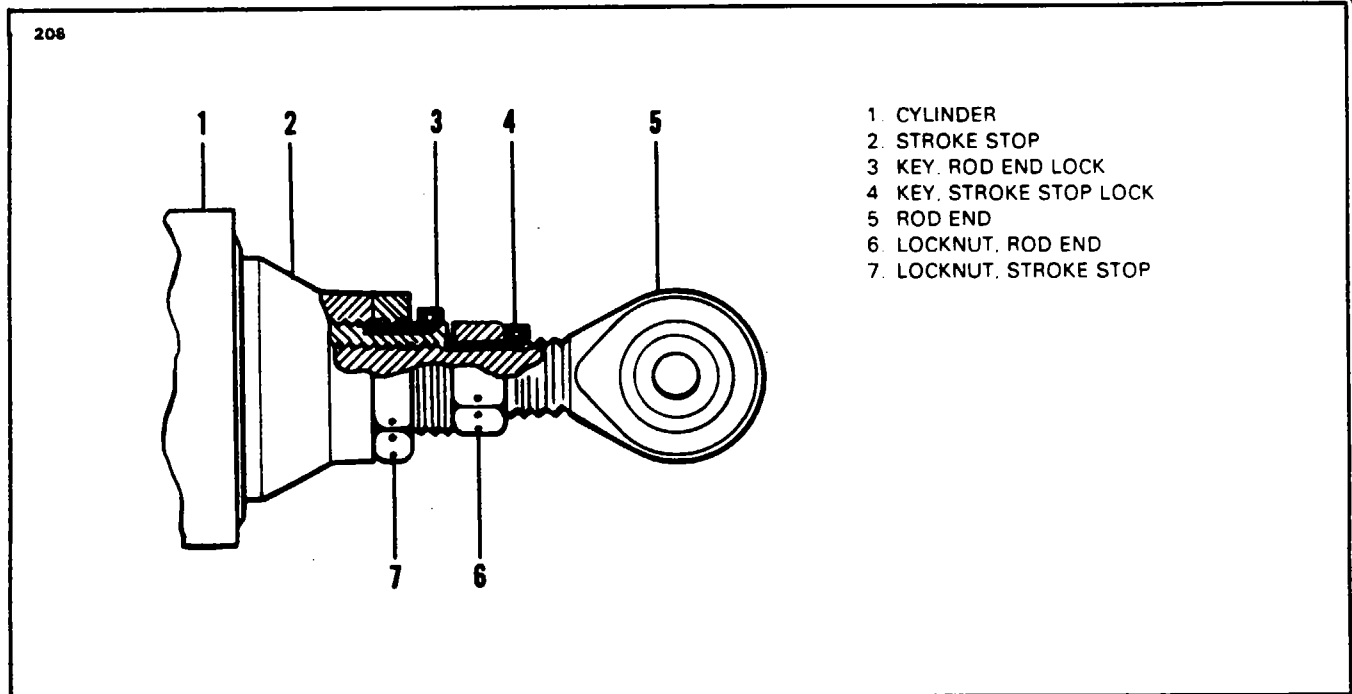

Figure 32-4. Actuator Cylinder
15. Back off the stroke stop one-half turn and tighten locknut on stop. Place the key locks between the locknut and the keyway in the rod. Screw the locknut on the rod and keep the key lock centered in the keyway while tightening the locknut. With the locknut torqued, install the lock wire from the key lock to the locknut. Refer to Figure 32-4 which shows the proper installation of the locks and locknuts on the piston rod end.